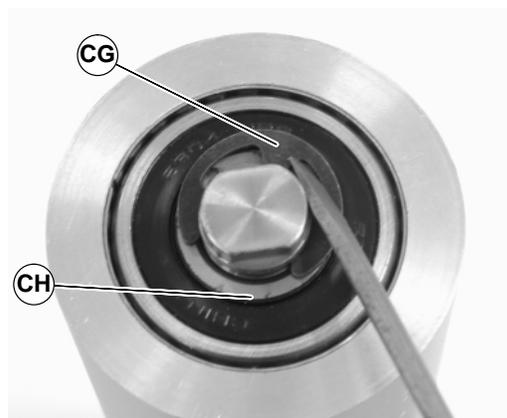

Figure 91
6. Remove the pulley shaft assembly: remove the clip ring (CG of Figure 91) and washer (CH) from one side of the pulley assembly.